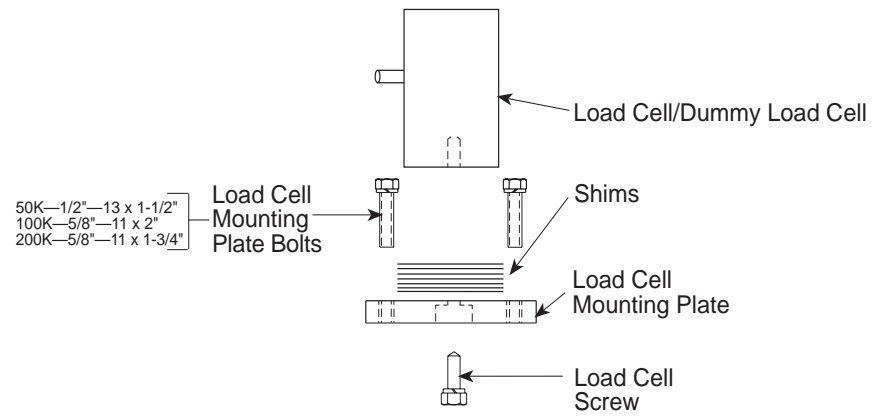

Figure 2.3 Load Cell Assembly
2. Place the dummy load cell on the shims (Figure 2.3).